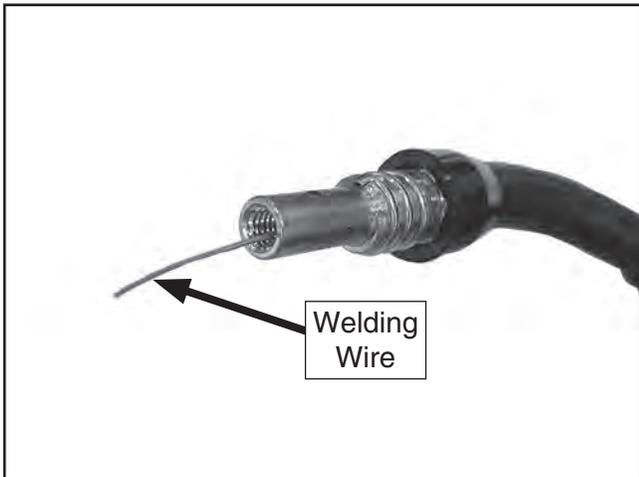

Figure 16. Wire extending from gun.
11. Pointing gun away from yourself and any conductive material, squeeze trigger to begin feeding wire through machine. Once wire appears at gun tip, release trigger (see **Figure 16**).